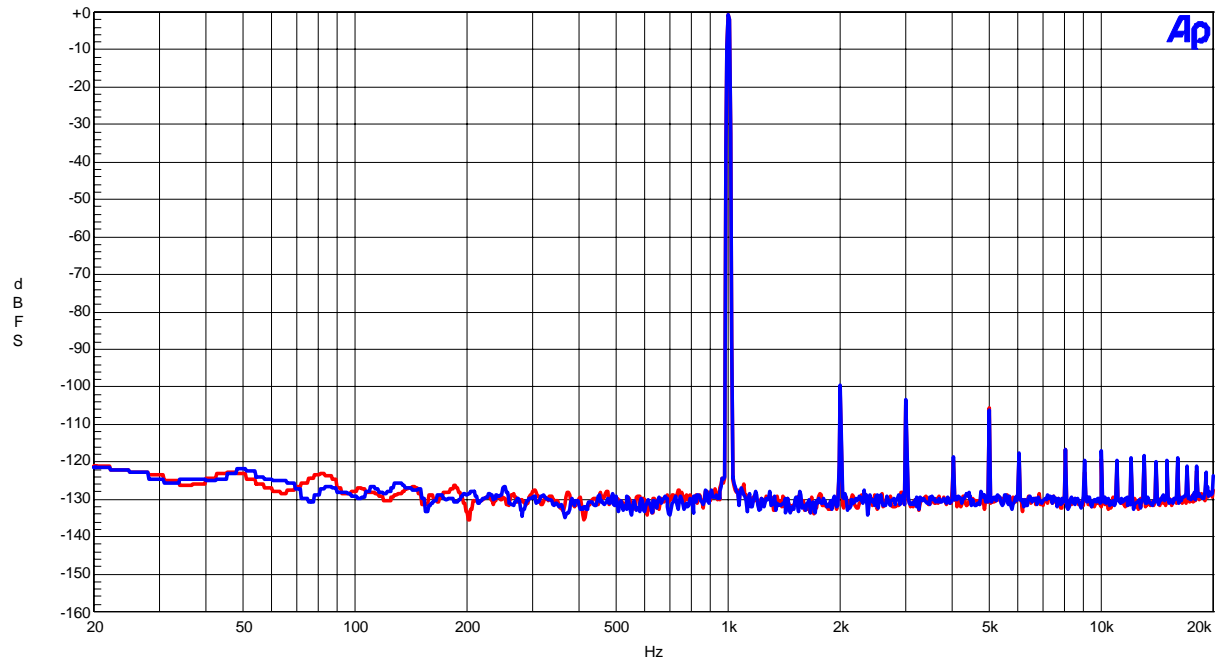

Figure 8. FFT(Input Frequency=1kHz,Input Level=-0.5dBFS)
- Figure 8. FFT (Input Frequency =1kHz, Input Level =-60dBFS)